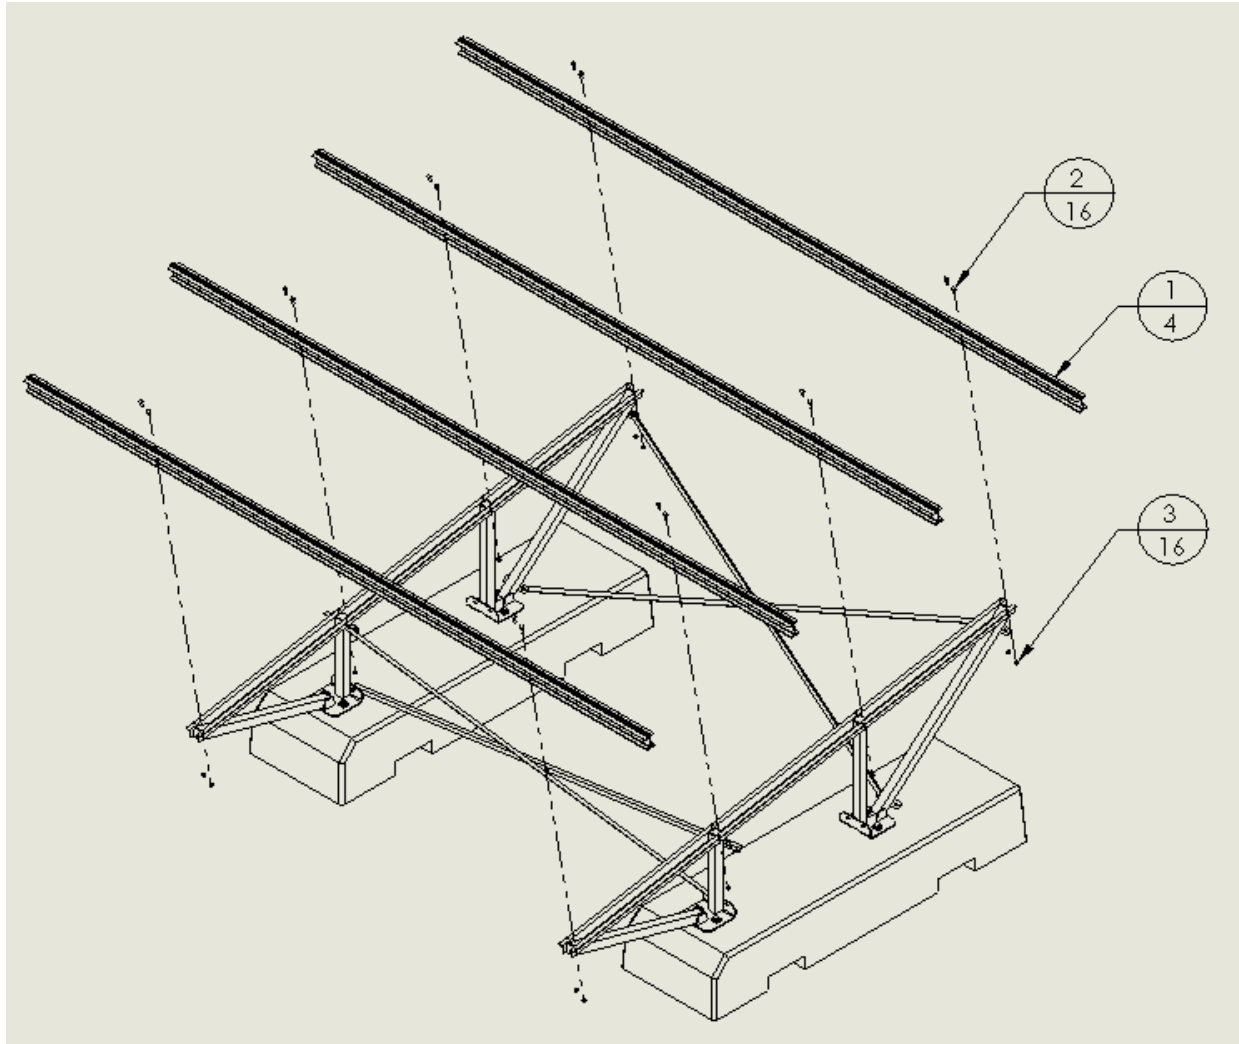
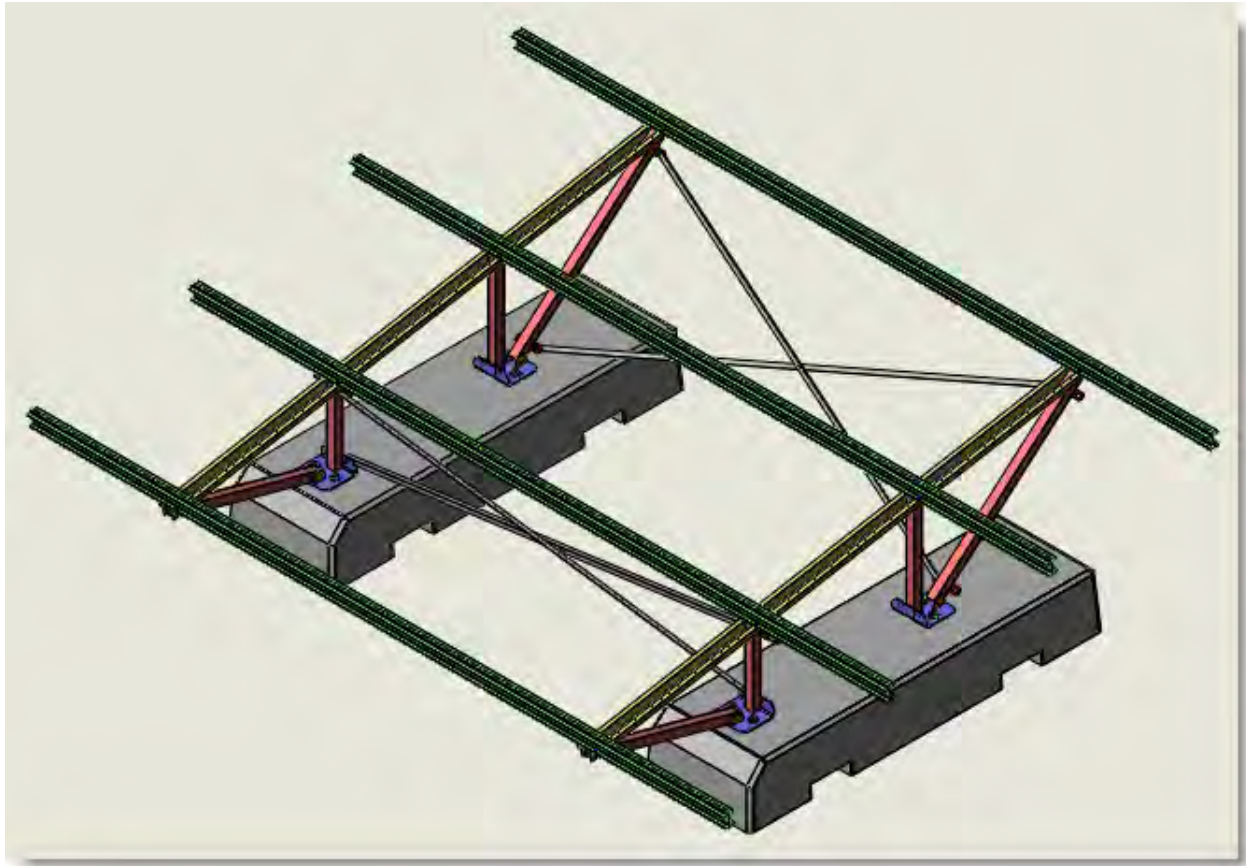

Figure 5
Figure 6
- a. SET THE (4) MAIN CHANNELS ACROSS THE TRUSSES. SEE FIGURE 5. USE THE HARDWARE SHOWN IN TABLE 3. WHEN THE CHANNELS ARE ALL ASSEMBLED TO THE TRUSSES, YOU MUST TIGHTEN **ALL** LOCK NUTS, INCLUDING THE CROSS SUPPORT LOCK NUTS. THE ASSEMBLY SHOULD NOW LOOK LIKE FIGURE 6.